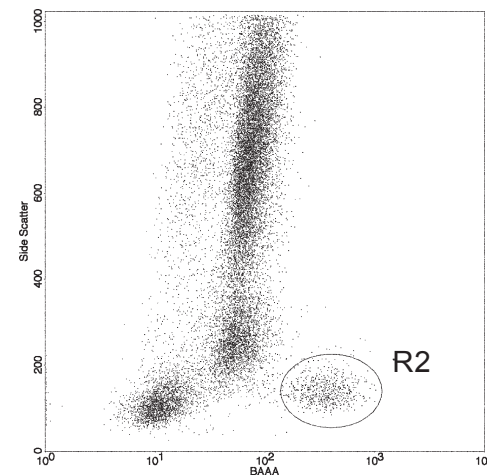

Figure 1b. Test Sample. Dot plot gated on R1. R2 should be drawn to include all ALDH^{br}SSC^{lo} cells.
- Create a Fluorescence Channel 1 (FL1) vs. SSC dot plot, gated on R1 (see Figure 1b).
- Place the corresponding ALDH test sample on the cytometer. Create a region R2 to encompass the cell population that is ALDH^{br} and SSC^{lo}. Remove the tube (see Figure 1b).